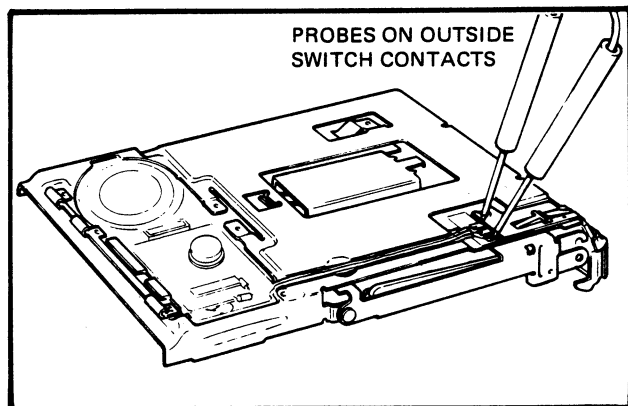

FIG. 5.39 CHECKING THE TIMER SWITCH
- a. Set a VOM on the Rxl scale and place probes on the contacts shown in Figure 5-39. The reading should be INFINITY. If the meter shows a continuity reading, check for bridging of the solder connections between the switch contacts. If there is no bridging and the reading is continuity, replace the timer.